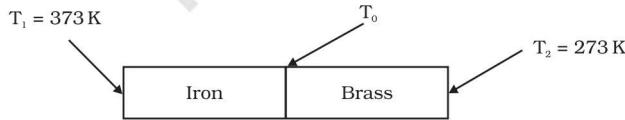

Fig 10.16
► **Example 10.7** An iron bar ($L_1 = 0.1 \text{ m}$, $A_1 = 0.02 \text{ m}^2$, $K_1 = 79 \text{ W m}^{-1} \text{ K}^{-1}$) and a brass bar ($L_2 = 0.1 \text{ m}$, $A_2 = 0.02 \text{ m}^2$, $K_2 = 109 \text{ W m}^{-1} \text{ K}^{-1}$) are soldered end to end as shown in Fig. 10.16. The free ends of the iron bar and brass bar are maintained at 373 K and 273 K respectively. Obtain expressions for and hence compute (i) the temperature of the junction of the two bars, (ii) the equivalent thermal conductivity of the compound bar, and (iii) the heat current through the compound bar.